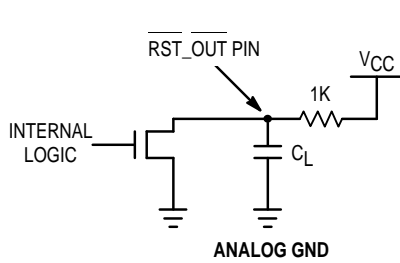

Figure 4. RST_OUT Test Circuit
- The $\overline{RST_OUT}$ pin is an open drain N-Channel output. Therefore an external pull-up resistor must be provided to pull up the RST_OUT pin when it goes into the high impedance state (after the MC88916 is phase-locked to the reference input with RST_IN held high or 1024 'Q' cycles after the RST_IN pin goes high when the part is locked). In the t_{PLZ} and t_{PZL} specifications, a 1K Ω resistor is used as a pull-up as shown in Figure 4.